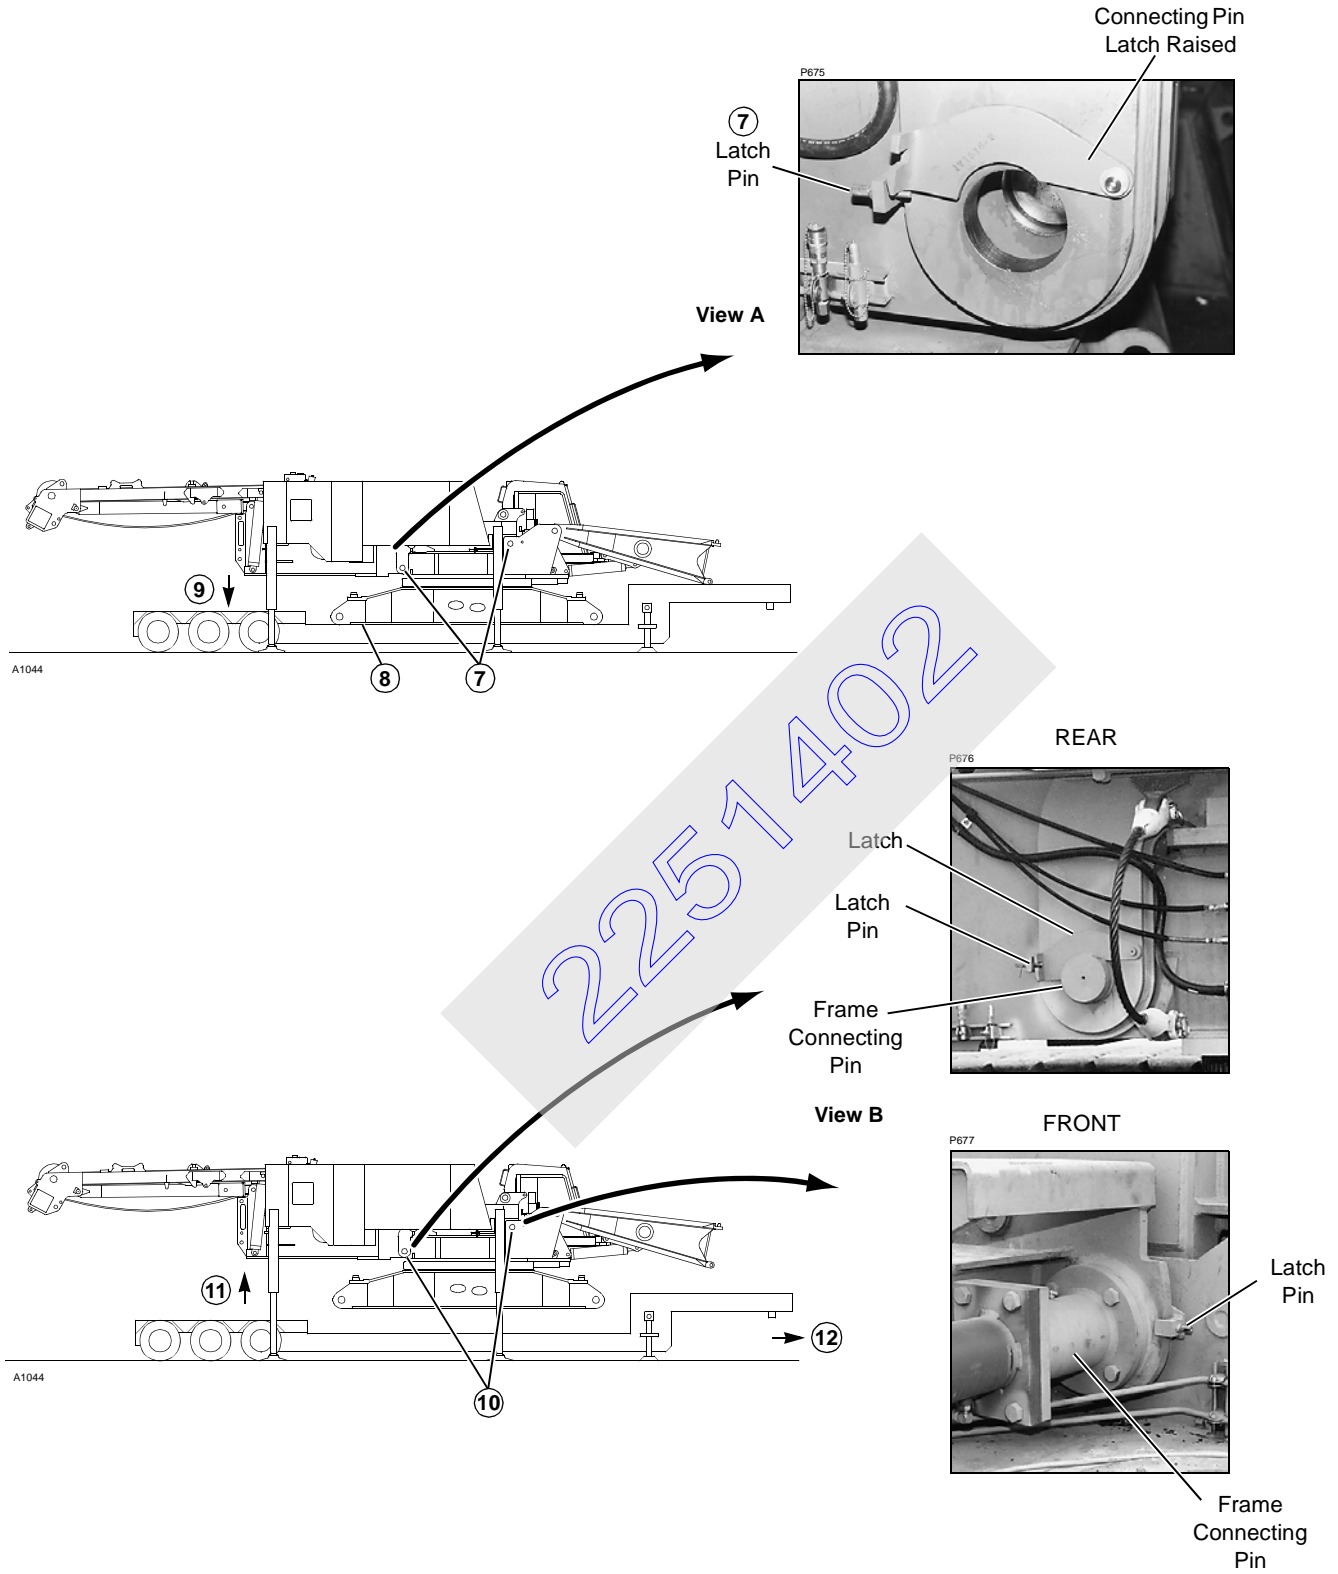

FIGURE 4-12
7. Make sure all four frame connecting pin latches are held up with latch pins (Figure 4-12, View A).
10. Retain frame connecting pins with latches; secure latches with latch pins (Figure 4-12, View B).